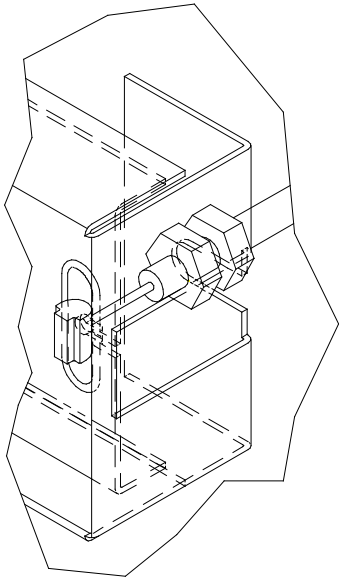

FIG. 5
1. Assemble the operating cable to the fountain bracket. (Fountain should be mounted to exterior wall.) The adjustment nuts should be in the middle of threaded area on the operating cable. See Figure 5. Create a loop in the cable and thread the free end of the cable through the wall into the freeze resistant box.
See Fig. 5